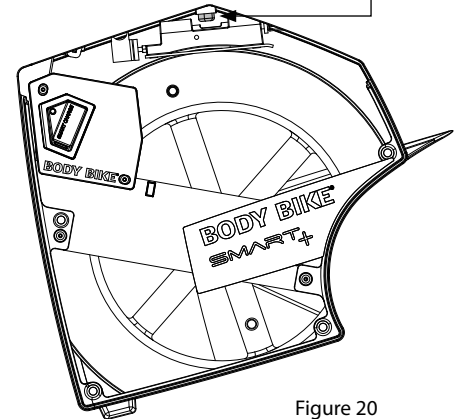

Figure 20
2) Dismount the brake lever. See figure 20. Hold the cap nut with a 17 mm wrench and unscrew the brake handle. Be sure to catch all internal parts in the brake system.